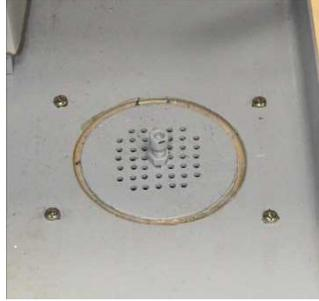

Figure 3-58 Coolant Drain Strainer
- 6) Place the “Drain strainer” in the drain hole and lightly apply pressure to create a seal (Figure 3-58).